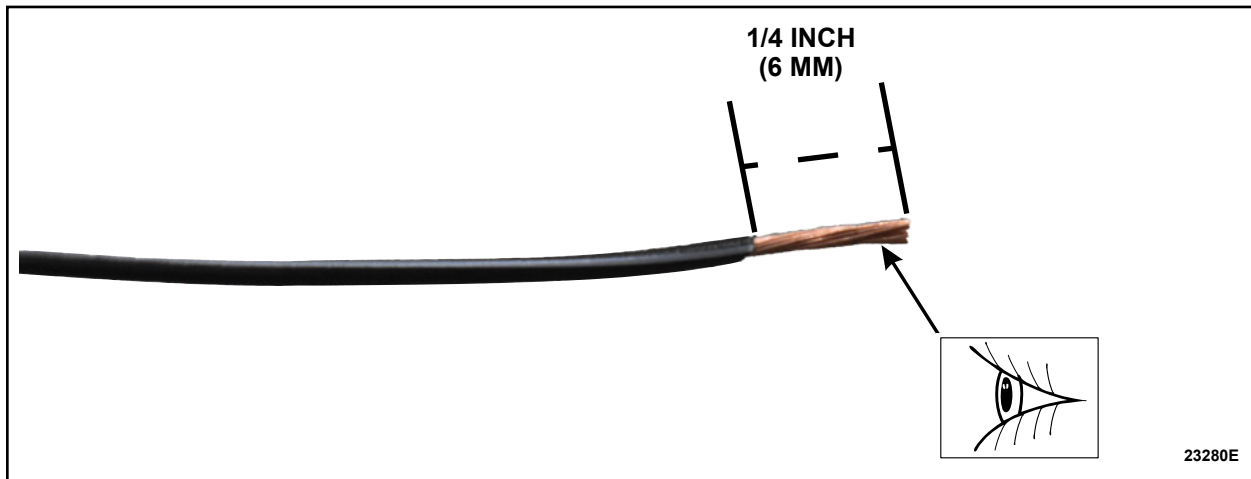

FIGURE 3
5. Strip the 1/4 inch (6mm) of wire insulation off the wires within the harness. See Figure 3. Inspect the stripped wires for any signs of corrosion or greening. Was any signs of corrosion or greening present?